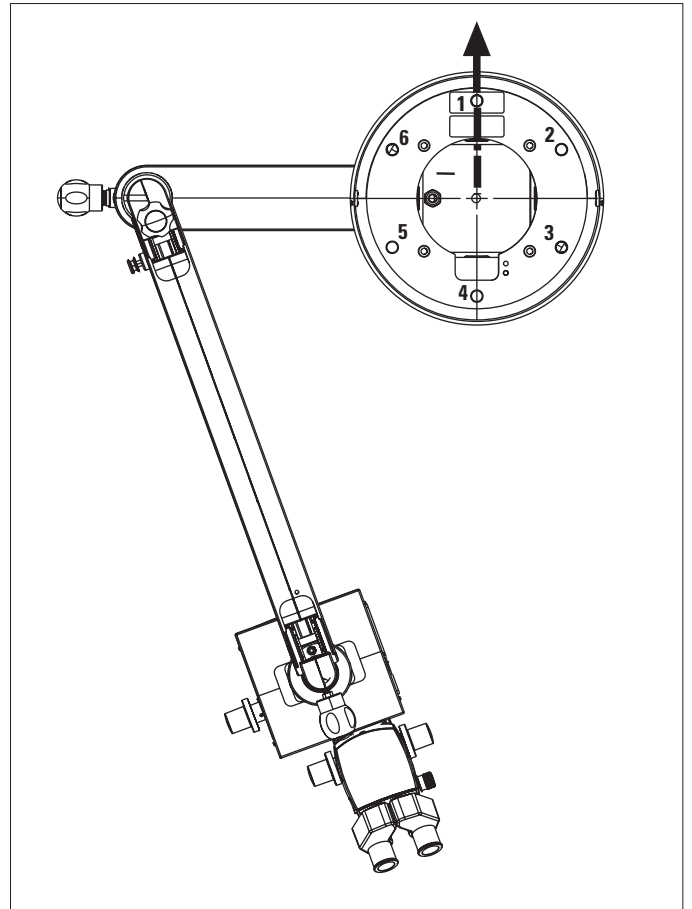

Fig. 2 (View from above)
- ⇒ Position the swing arm with the microscope as far as possible behind Screw **5** (Fig. 2).